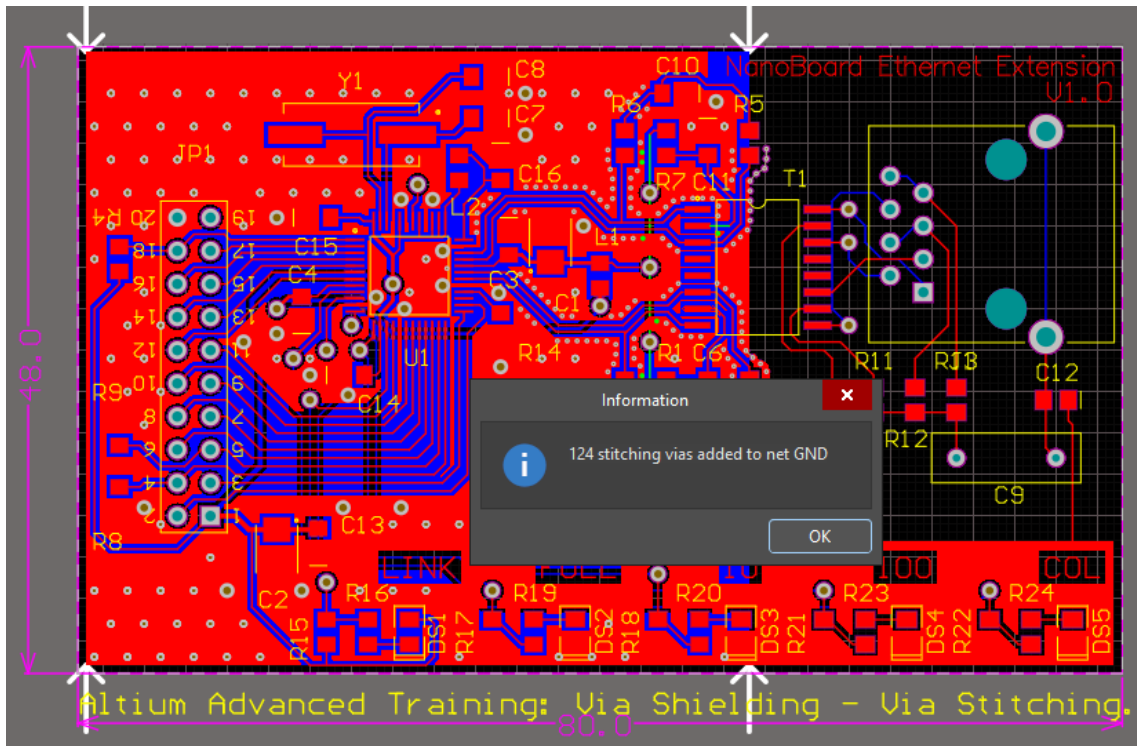

Figure 8. Stitching Vias added
- e) Select **OK** to generate the Via Stitching. An *Information* dialog box will appear, stating the number of vias that have been added, as presented in Figure 8 for illustration purposes.